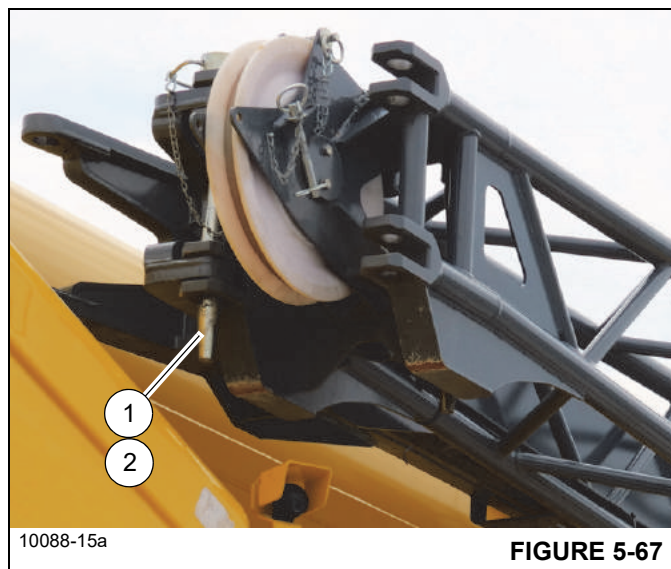

FIGURE 5-67
11. Remove retaining clip (1, Figure 5-67) and pin (2) to detach the boom extension base section from the fly section. Place the pin in its holder on the boom extension base section and secure with retaining clip.